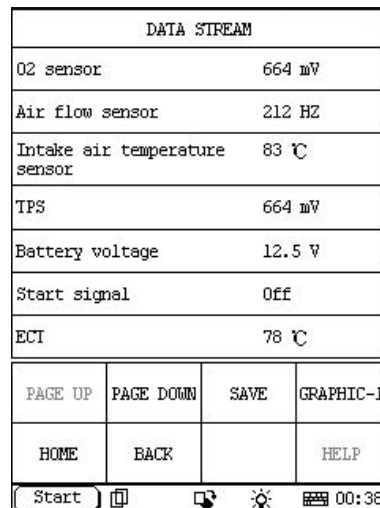

Figure 2-42
Click 'OK' to show the data, as shown in figure 2-42.
1. Connect and enable communications between X431MASTER and the vehicle, entering interfaces as shown in figures from figure 2-42, to figure 2-56, figure 2-57 and figure 2-58.